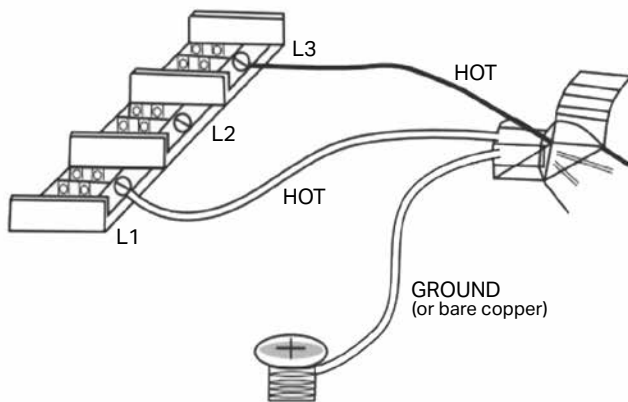

Figure 7
3. Pull enough wire into the heater and connect to wire to the Power Block located in the electrical area of the heater (See **Figure 7**).